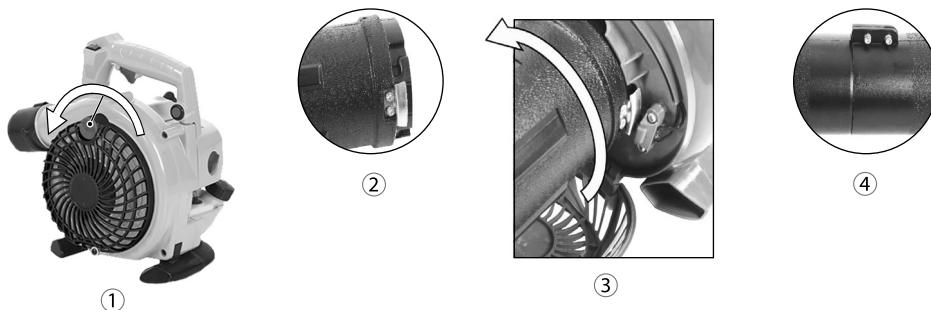

Fig. 4
5. Hold the power head and undo the fan cover retaining screw 1 (Fig. 4) in an anticlockwise direction, the screw should remain with the cover.
6. Select the upper vacuum tube that has the micro switch strike plate attached 2 (Fig. 4).
7. Lower the fan cover and insert the upper vacuum tube 3 (Fig. 4) ensuring the strike plate aligns with the micro switch on the power head. Push the tube asfar asit will go and then turn in an anti-clockwise direction.
8. Attach the lower blower tube 4 (Fig. 4) using the 2 bolts providedin the tool kit.